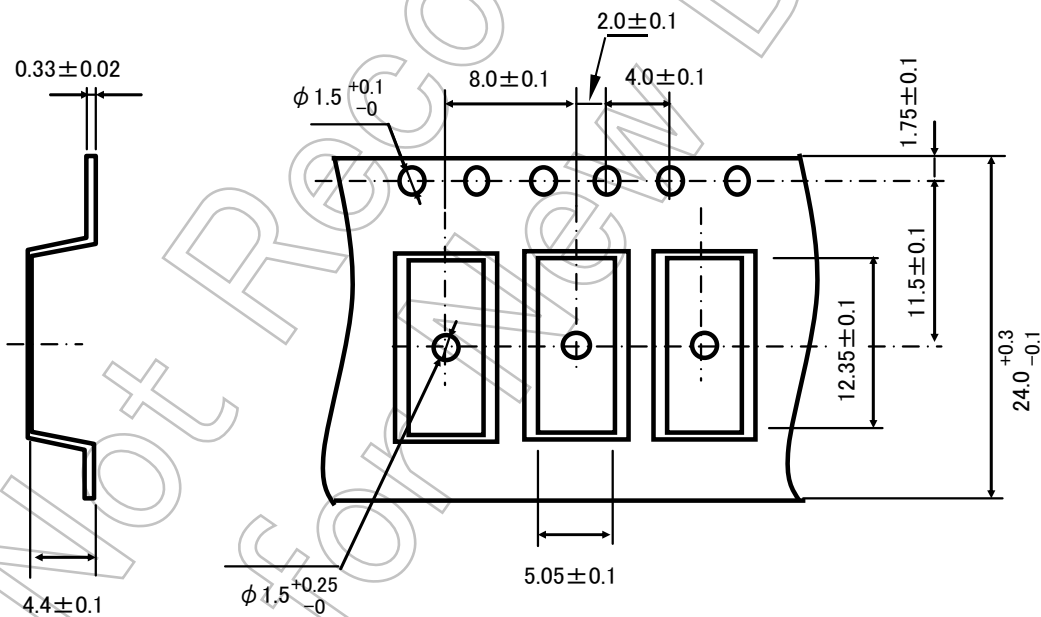

Figure 3 Tape Forms
- (1) Tape material: Plastic
- (2) Dimensions: The tape dimensions are as shown in Figure 3.